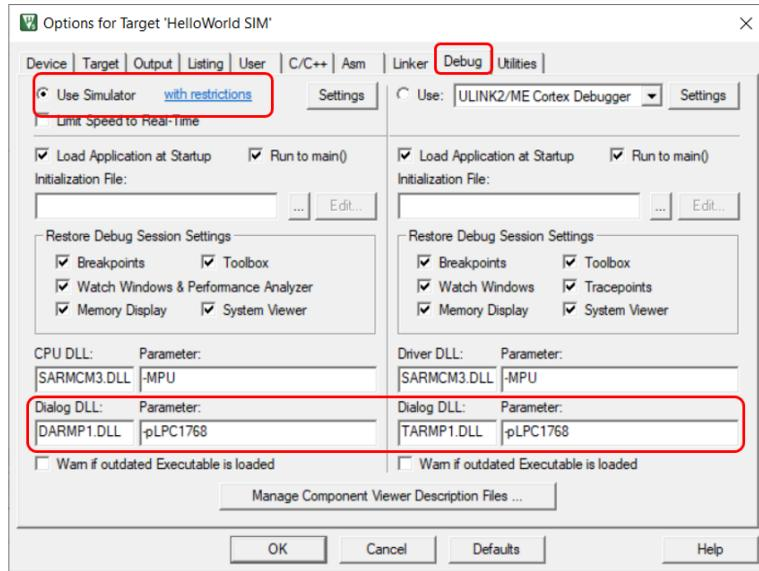

Figure 8.17: Keil IDE: Target Options Debug Tab Configuration
1. Open up the target option window and select “Use Simulator” in the Debug tab page and set the Dialog DLL and Parameters as shown Figure 8.17.